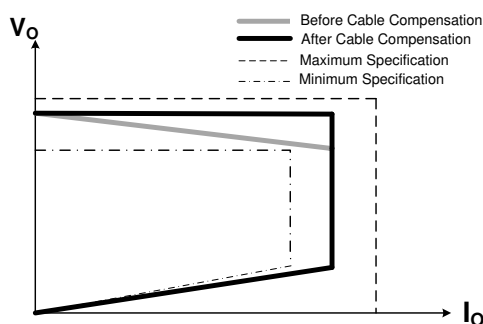

Figure 23. CV with CDC and CC V/I Curve at the Cable End
FAN105B modulates pulse width and switching frequency based on feedback signal auxiliary winding signal (VS) and current sense signal (CS). Extremely accurately Constant Voltage(CV) with Cable Drop Compensation (CDC) and Constant Current (CC) could meet strict requirement from market. The CV and CC output characteristic is shown as Figure 23. There are 4 levels (80mV - 320mV) choices in CDC compensation weighting that is easily set via external SMD resistor.